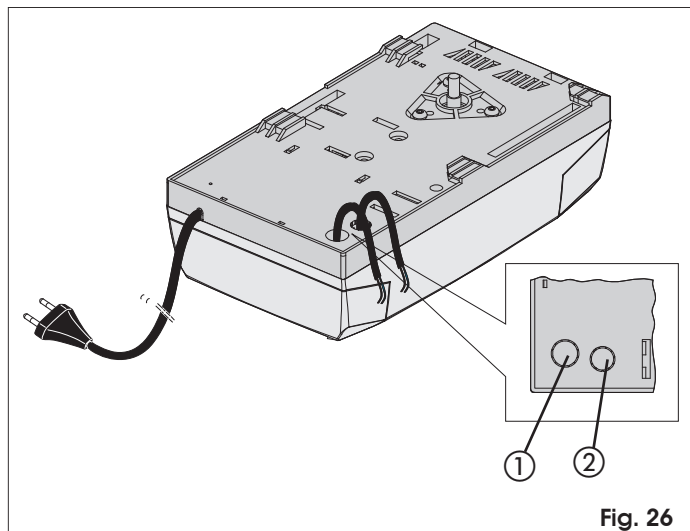

Fig. 26
- To connect the external controls, safety devices and signals, break open the pre-holed element (Fig. 26 ref. ①).
- To connect the safety edge (see par. 17.3), break open the pre-holed element (Fig. 26 ref. ②).